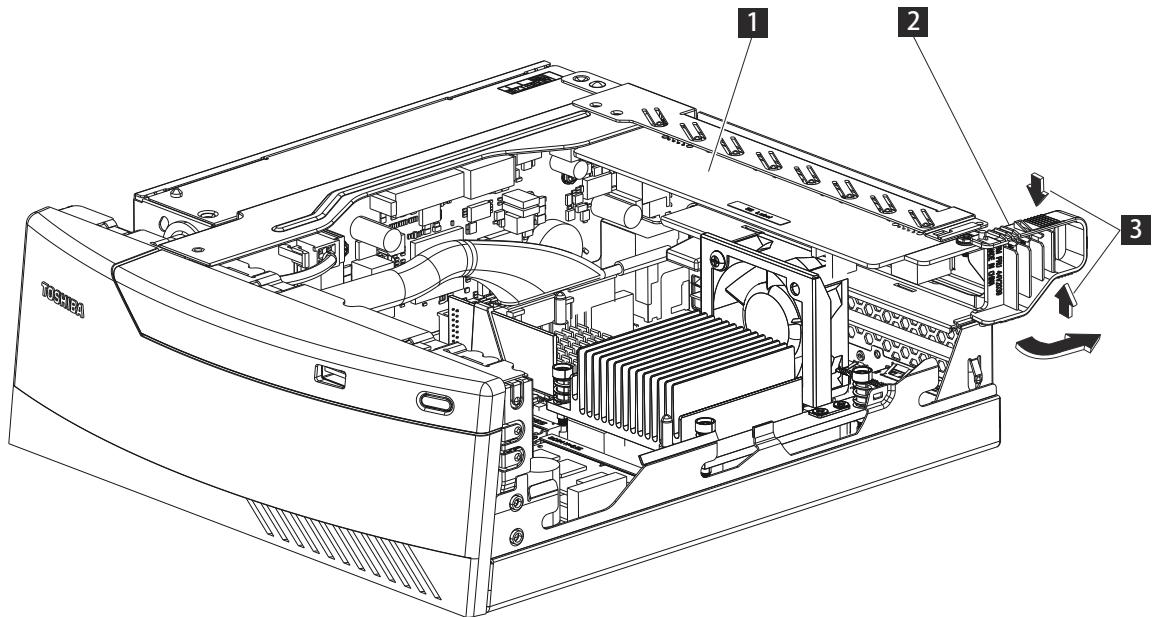

Figure 15. Removing the I/O connector card
2. Squeeze the blue plastic connector-card retainer at the top and bottom (where the two small arrows **3** are located in Figure 15) to unlatch. Rotate the I/O connector-card retainer outward to the open position **2** as shown.